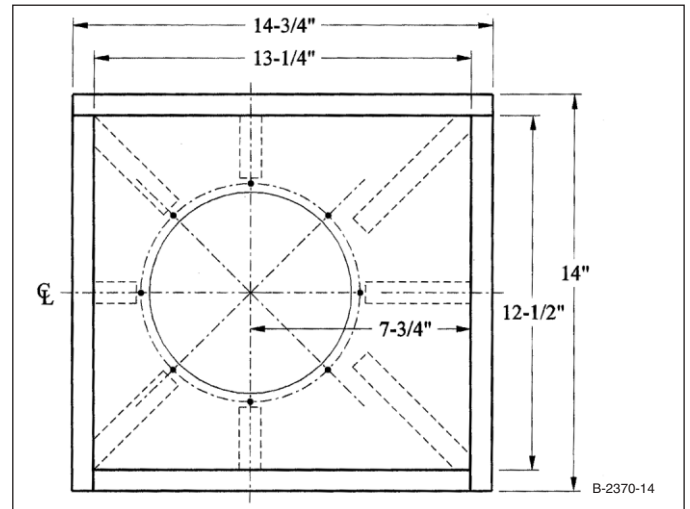

FIGURE 14: Front view of enclosure with port exit on right side.
The two boxes are built mirror-imaged in terms of driver lateral offset and vent exit side. The vent exits on the side farthest from the driver location. *Figure 13* shows a right-side view of the enclosure locating the front panel (FP), the back board, and the hole for the vent exit flare (box right is on your right as you face the front of the box). The front view (*Fig. 14*) shows the woofer mounting information for the box with the right side vent exit.
Also shown in *Fig. 14* are the locations of the FP corner blocks and the side braces. Note that the corner blocks on the wide side of the FP have double 45° angle cuts, while those on the narrow FP side are cut to fit against the wall with a single 45° cut. This allows the narrow FP side blocks to act as retainers for the T-nuts. The side wall braces, which would run into the folded vent duct, present a design problem, so you need to hand-fit them after installing the vent duct (documented later).